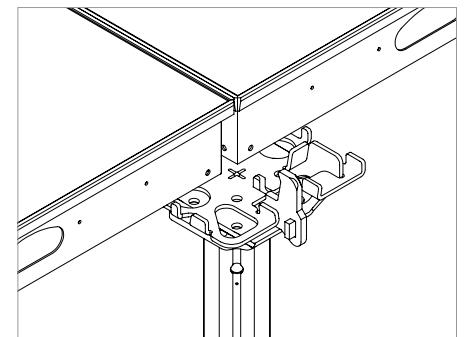

Fig. A5.14a
- when infill  $\leq$  cantilever. (Fig. A5.14a)